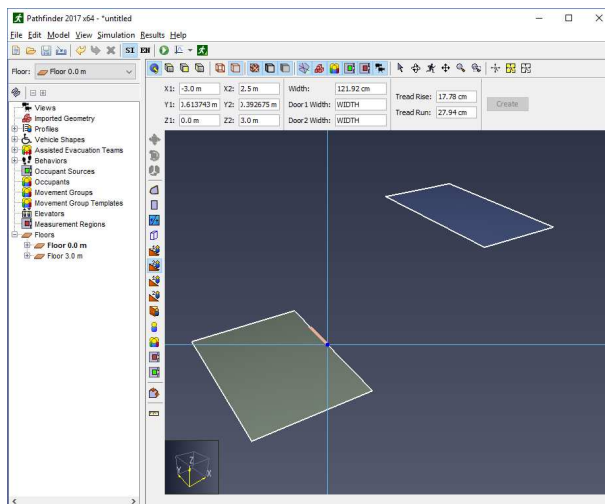
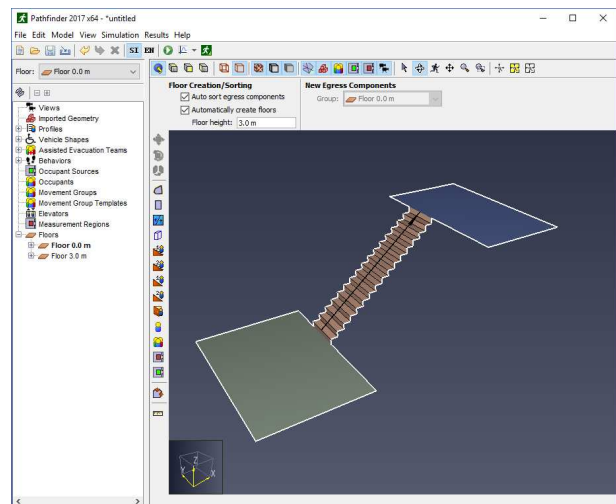

Figure 49. Click the first edge
Figure 50. Click second edge to finish stairs
- b. **Two-click:** Set the desired stair width. Move the cursor over the first edge, and a preview line similar to a thin door will appear previewing the top or bottom of the stairs. Single-click to set the point. (Figure 49) Now move the cursor over the second edge. Now a preview of the stairs will appear connecting the first edge to the second. Single-click on the second edge to create the stairs (Figure 50).